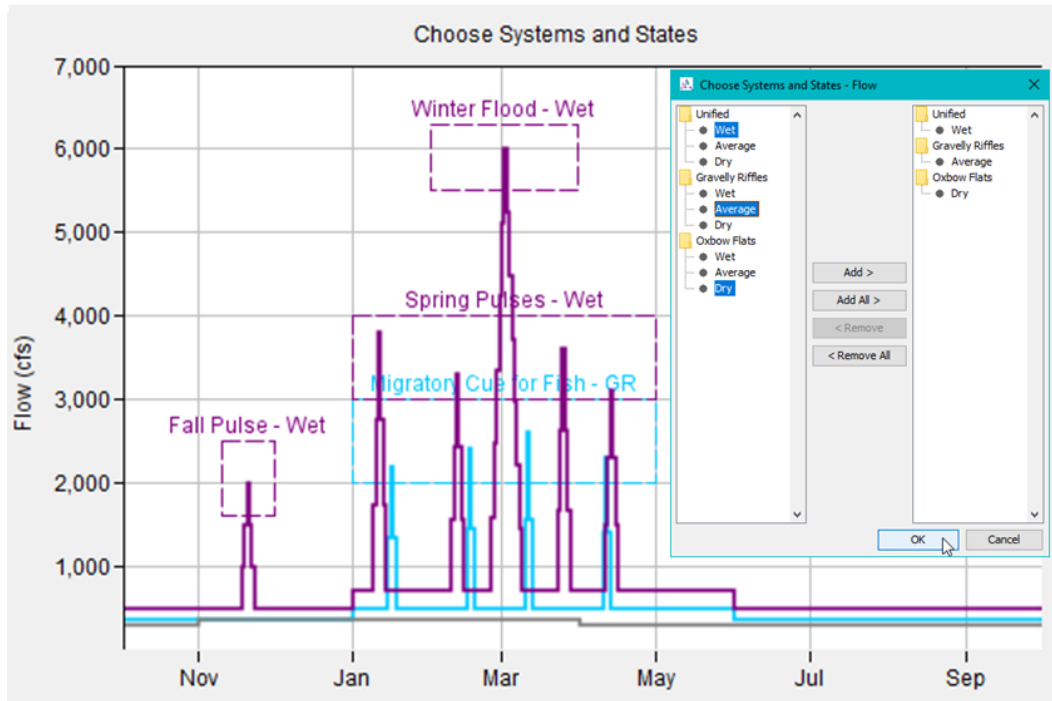

Figure 4. Adjusting predefined plots to accommodate system types.
- Predefined Plots - Choose Systems and States. A new predefined plot option was added called “Choose Systems and States”. It is an adaptation of the first two predefined plot options, “All States for one System” and “One State for all Systems”. The new option simply allows users to select which system-state pairings they would like to plot together for visualization and comparison purposes. When the user selects this plot option, RPT opens an interface that allows the user to select the desired system-state pairs (Figure 4). Please note that